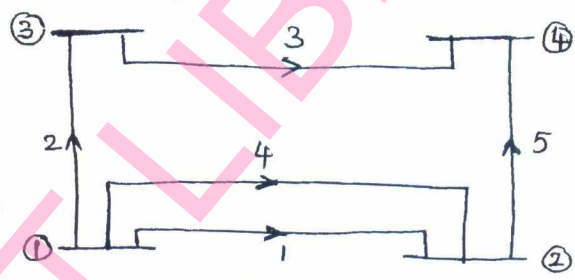

Fig. Q1(b)
- b. For the power system shown in Fig. Q1(b). Draw the oriented graph and obtain the following incidence matrices.